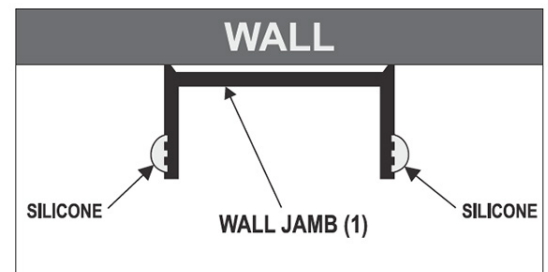

FIGURE 7
Once all six #10 x 2" Wall Jamb Screws (F) are securely in place, apply bead of silicone to the outside ribbed edge of Wall Jamb (I) running the entire length of both sides. (See Figure 7)